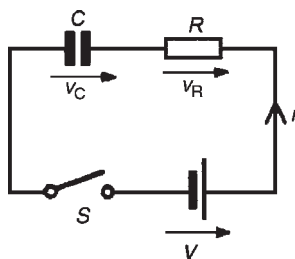

Figure 20.1
- (a) The circuit diagram for a series connected C – R circuit is shown in Fig. 20.1. When switch S is closed then by Kirchhoff's voltage law: